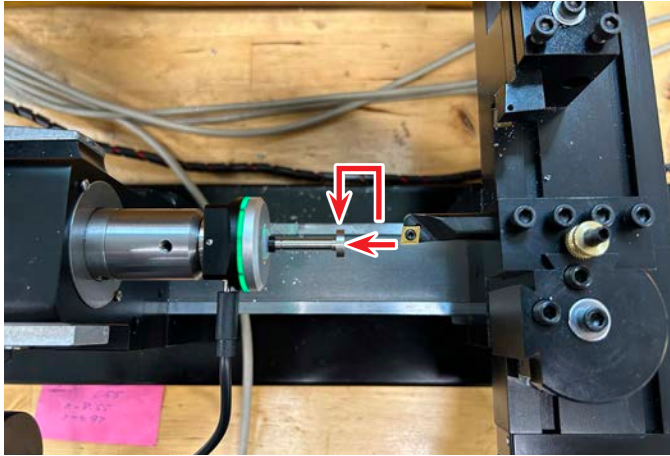

FIGURE 52
B. The boring tool will now touch off on the touch probe as shown below (see Figure 52).